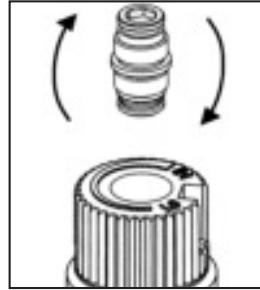

Figure 16: Flip Valve Screw
- Flip the screw around and reinsert with the red o-ring seal facing outward (see Figure 16).